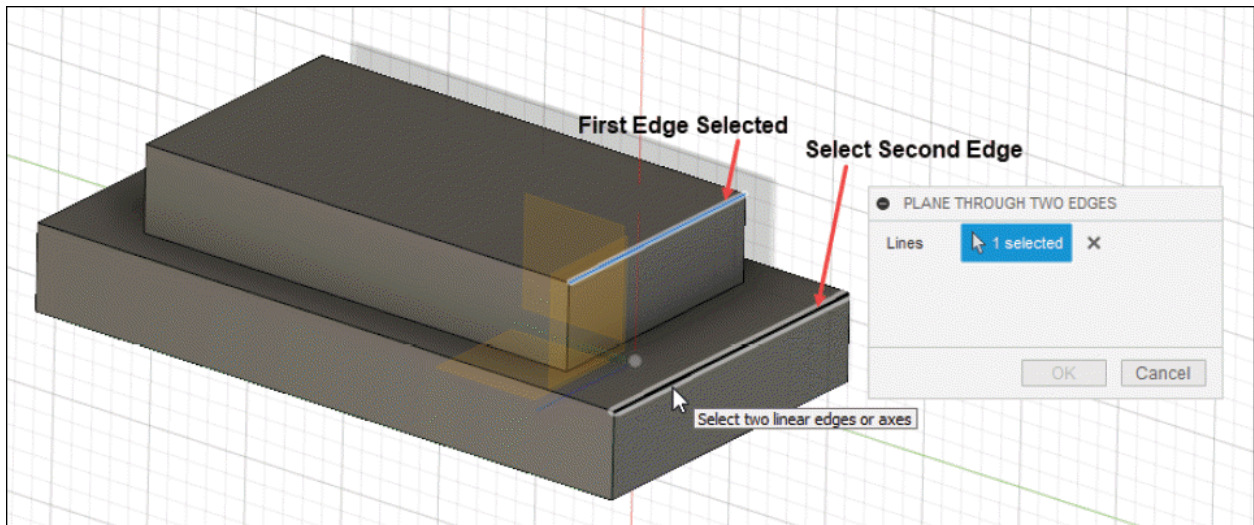

Figure-87. Selection of edges
- Click on two straight edges of model to create plane; refer to Figure-87.